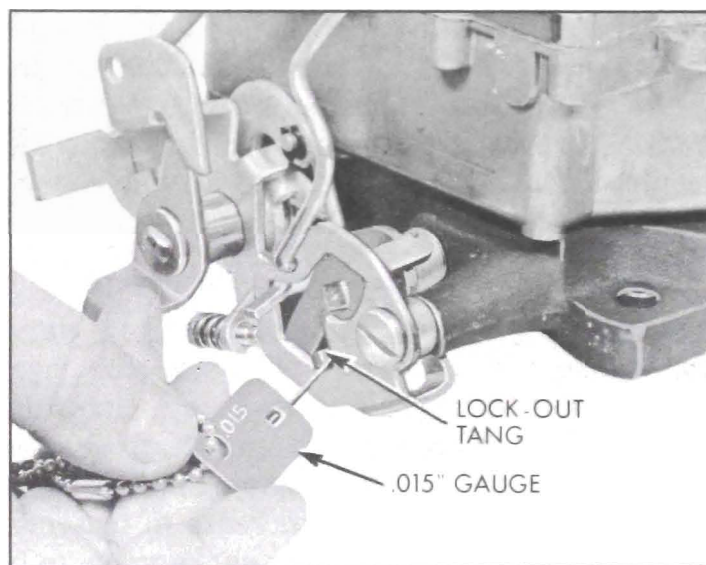

Figure 3-86—Checking Secondary Lock-Out Adjustment
5. Close choke valve so that secondary throttle lock-out tang is on lock-out step of fast idle cam. Check clearance between tang and step using .015" Gauge. See figure 3-86.